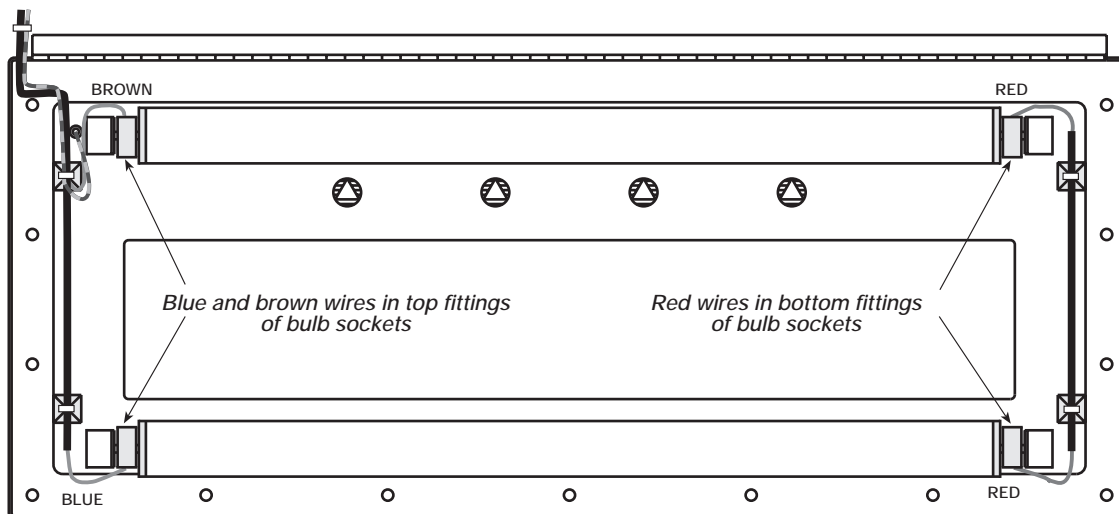

Figure 3. Bulb Wiring for F40 Backlighting Option
7. Install bulb sockets on the display cover as shown in Figure 3 on back of this sheet.